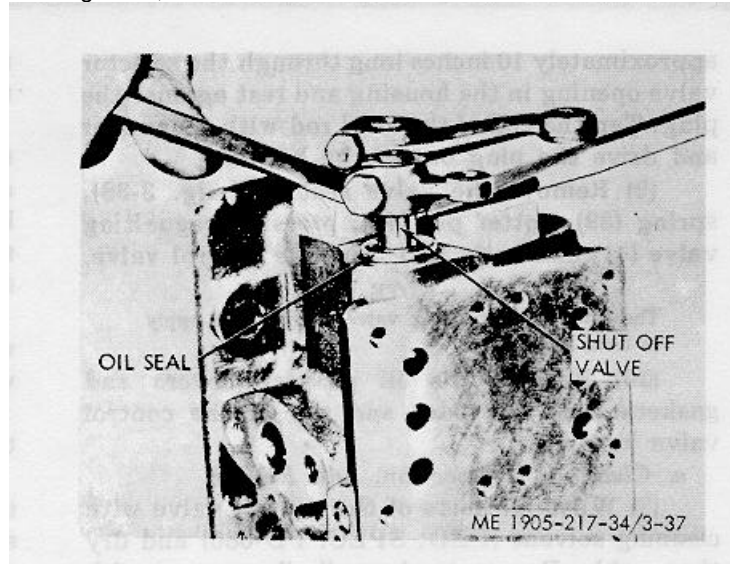

Figure 3-37. Removing shutoff valve oil seal from control housing
(2) With the control valve housing (a) supported in a vertical position, place two small wood blocks on the end of the housing and, using pry bars spaced 180° apart under the shut off valve lever as shown in figure 3-37, pry the shutoff valve oil seal (2) out of the housing. Then, remove the shutoff valve and oil seal as an assembly from the housing.